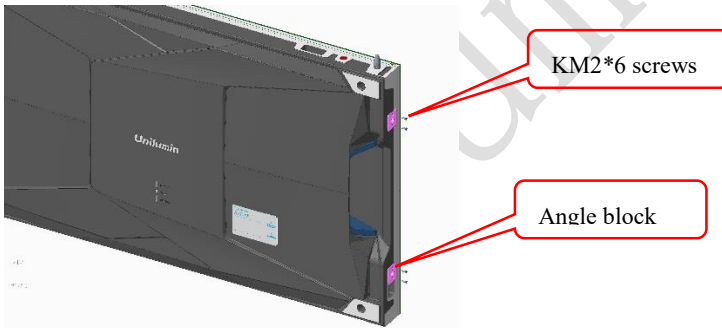
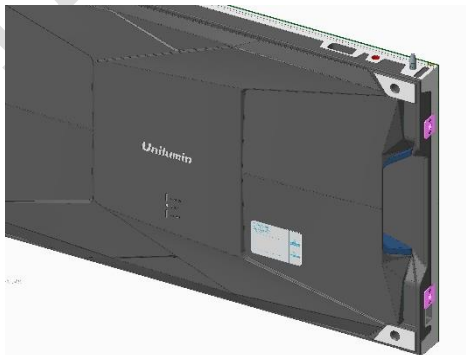

Fig 2-12 Installing angle block 1
Fig 2-13 Installing angle block 2
- 3) Fix the angle block on the screw hole on the right side of the cabinet with KM2 * 6 screw, as shown in Fig. 2-12 and Fig. 2-13;